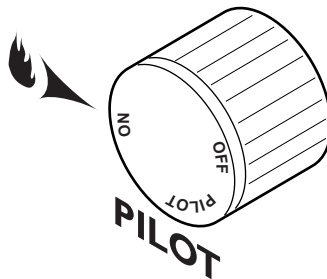

Figure 34 - On Position
Depress and turn the knob counterclockwise  to the “ON” position. *See Figure 34.* It will take less than four (4) seconds for the burner to ignite.